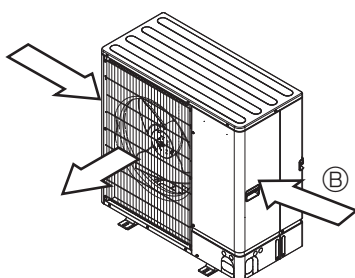

Fig. 4-23
- ③ Position the unit so that the air outlet blows perpendicularly to the seasonal wind direction, if possible. (Fig. 4-23)
(2) When installing a single outdoor unit (Refer to the next page)